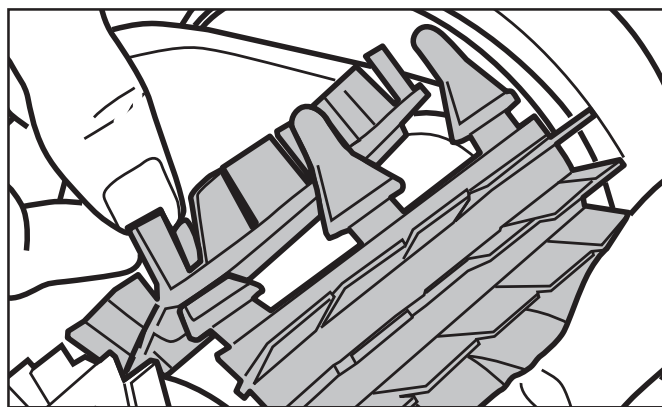

Figure 26. Pull Tabs Through Each Slot
4. Thread each tab into the slot provided and gently feed it through until the heel comes out at the other side of the slot (see Figure 26).